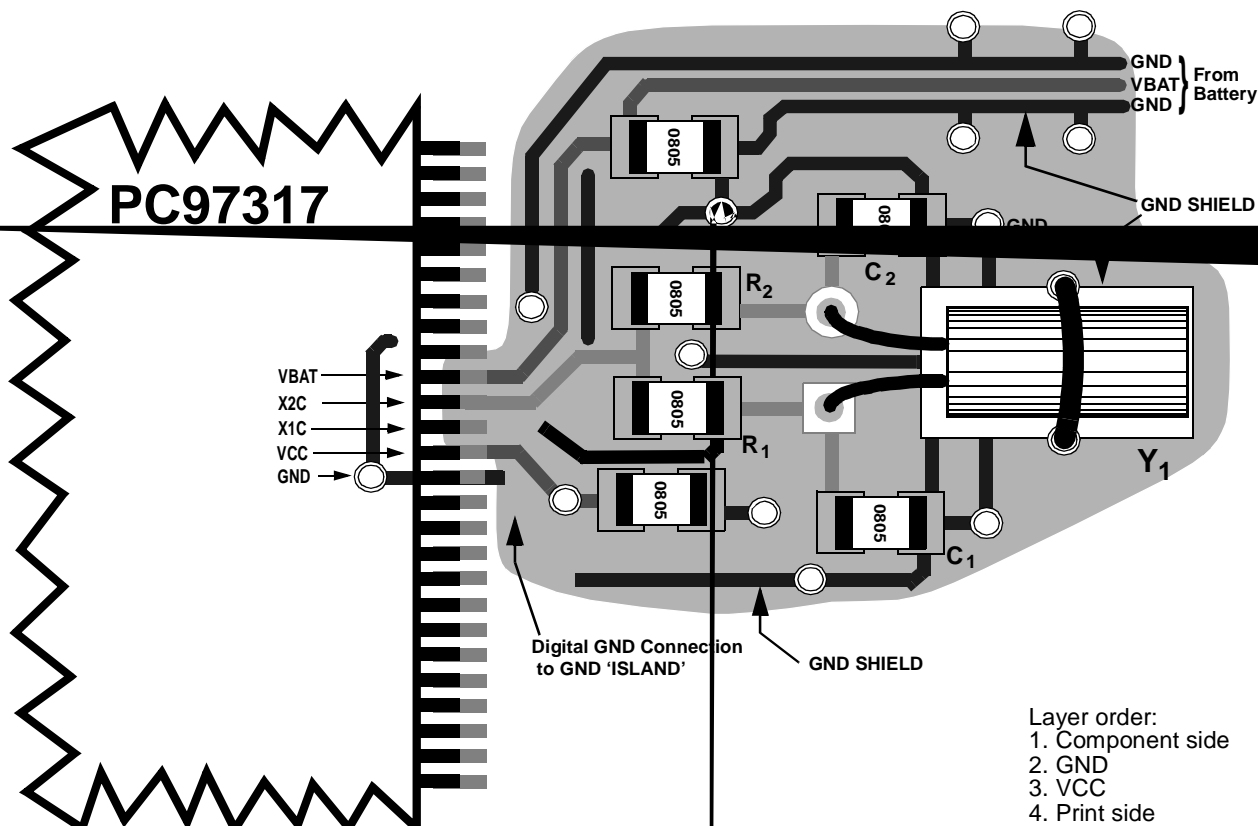

Figure 2-1. On-Chip Oscillator Circuit Layout
Figure 2-1 shows the recommended layout for the oscillator circuit.
- Use small SMD parts where possible. The recommended parts, as shown in Figure 2-1, are: SMD 0805-size capacitors and resistors, and a crystal in a cylindrical package; however, other package types may be used.
- Place a ground layer "island" beneath the oscillator components and the battery, immediately below the upper layer (component side). The ground layer "island" is shown in the shaded area in Figure 2-1. Connect the "island" to the digital ground plane close to pin 60 (GND) of the PC97317. This prevents the switching currents that flow through the ground plane from penetrating the ground layer "island".
- If the battery is placed at a distance of more than 30 mm from the VBAT pin, shield the VBAT wire, as shown in Figure 2-1.
- Changes in the load capacitance affect the oscillating frequency. The load capacitance is affected by the routing of X1C and X2C (see Section 3.3). Humidity also affects load capacitance. Painting the area of the board above the GND island (Figure 2-1) with water resistant paint can reduce the effect of humidity. Note that the more accurate the capacitors, the smaller the differences between systems.